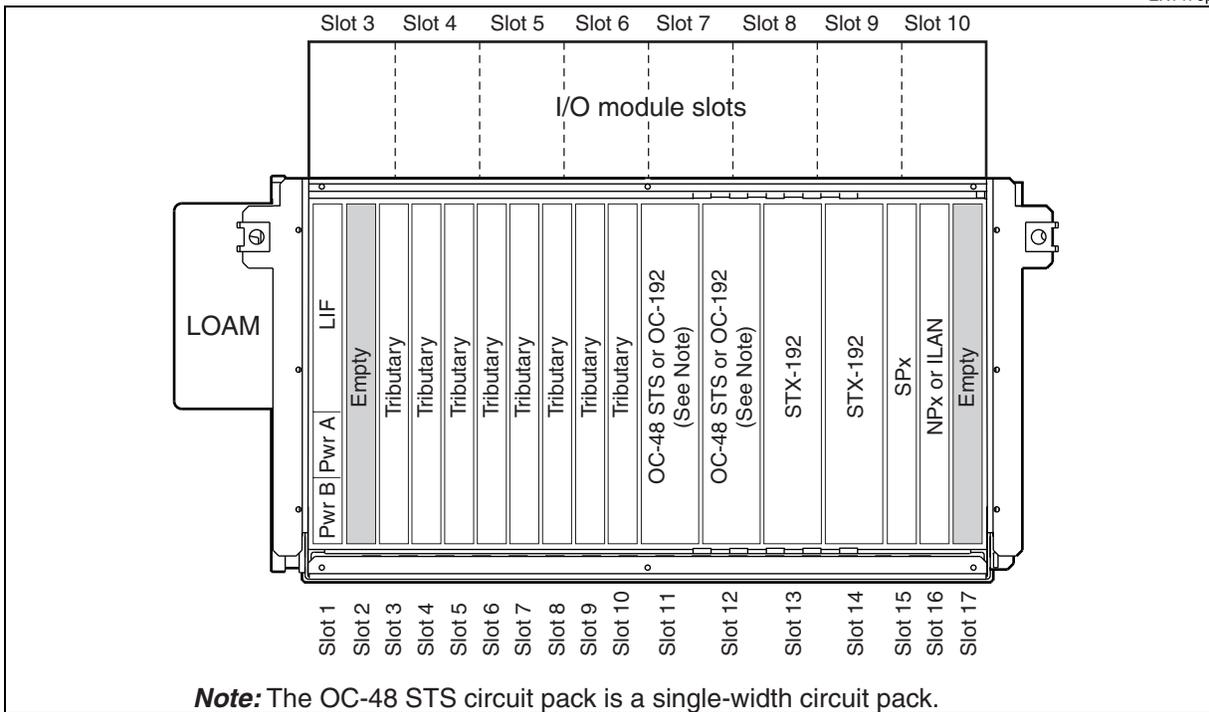

Figure 3-72
- Figure 3-72 on page 3-117, if your shelf will be equipped with VTX-48 or VTX-48e circuit packs
5	Remove the SPx from its box and install in slot 15. See: <ul style="list-style-type: none">• Figure 3-72 on page 3-117, if your shelf will be equipped with VTX-48 or VTX-48e circuit packs• Figure 3-73 on page 3-118, if your shelf will be equipped with STX-192 circuit packs• Inserting or removing a circuit pack on page 3-192 <p>Note 1: When you insert the SP, the Status LED turns red and the Active LED turns green. These LEDs indicate that the shelf processor software is initializing.</p> <p>Note 2: Software initialization time (up to 5 minutes) is complete when the Active LED illuminates green. If the Active LED does not illuminate green, the circuit pack has faults and must be returned to Nortel Networks. Do not go to the next step until the shelf processor software initialization is complete.</p>
7	On the LIF, set the major alarm disable switch (service switch) to the OFF position. Use an object made of wood or plastic to move the switch to the left position. See: <ul style="list-style-type: none">• Figure 3-72 on page 3-117, if your shelf will be equipped with VTX-48 or VTX-48e circuit packs• Figure 3-73 on page 3-118, if your shelf will be equipped with STX-192 circuit packs You have completed this procedure.
| 12 | On the LIF, set the major alarm disable switch (service switch) to the OFF position. Use an object made of wood or plastic to move the switch to the left position. See Figure 3-72 on page 3-117 .